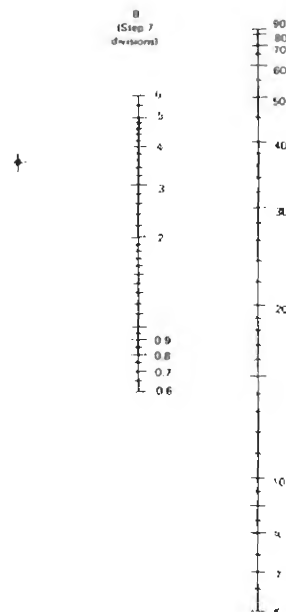

Figure 2-20. Phase angle nomograph
10. The sine-to-angle conversion can be accomplished by using trig tables or a trig calculator. However, if the sine is between 0.1 and 1.0, you can use the Figure 2-20 monograph so the edge passes through the cross mark and the number of divisions measured in Step 7 (B dimension). When this is done the edge will also intersect the phase-angle column.